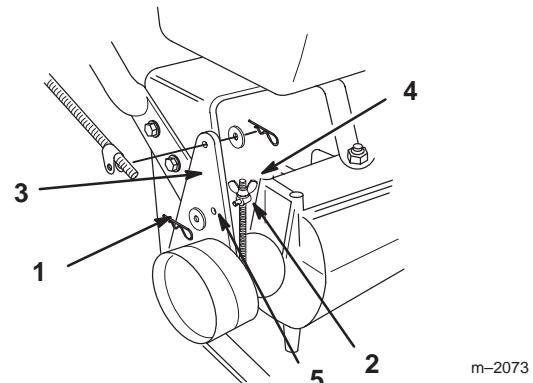

Figure 38
3. To adjust the brake remove the cotter pin and washer from the brake lever (Fig. 38).
4. Rotate the trunnion so it smoothly slides into brake lever hole F (Fig. 38). Tighten wing nut.
5. Secure trunnion to brake lever with washer and cotter pin (Fig. 38).